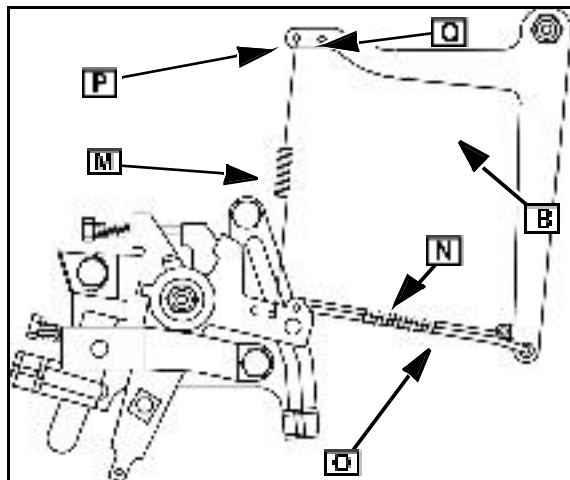
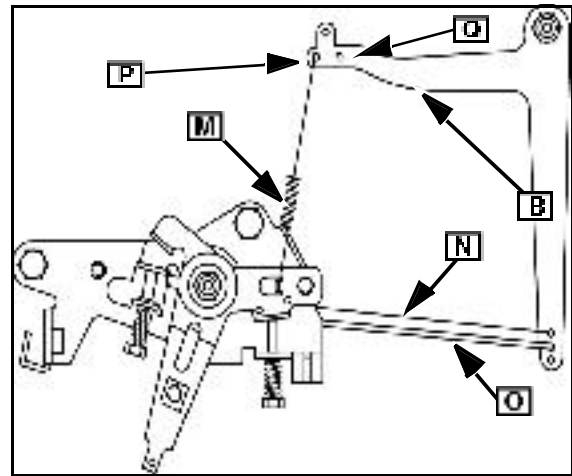

Fig. 20
Fig. 21
**NOTE:** The following two illustrations (Fig. 20 & Fig. 21) show the general procedure for assembling governor linkages. Details vary with the type of equipment being powered.
13. Hook governor spring (M), link (O) and link spring (N) into lever ([B] Fig.20 or Fig.21).
**NOTE:** 60 Hz generators use the outer hole ([P] Fig. 21), while 50 Hz generators use the inner hole (Q) on the governor lever (B). Generator governor spring part numbers are listed in the Illustrated Parts List.